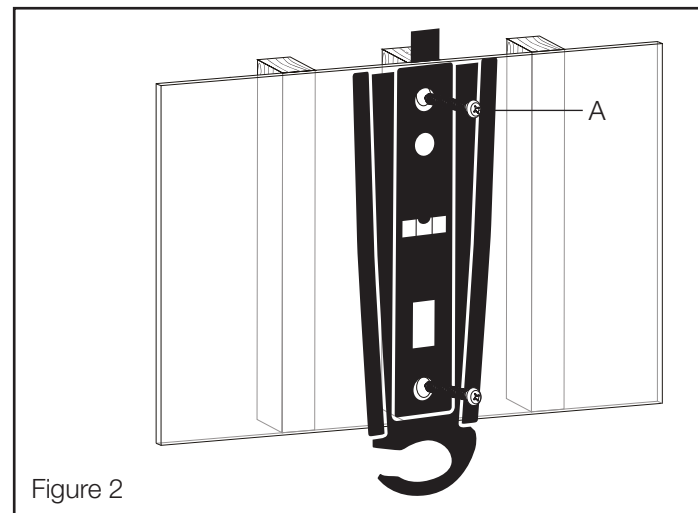

Figure 2
4. Insert lag bolts (A) through the 2 holes on the Wall Plate (see Figure 2). Do not over tighten.